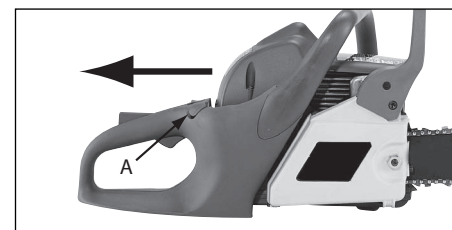

Fig. 9B
2. Pull the choke (A) out as far as it will go until the choke stays out. (Fig. 9B)